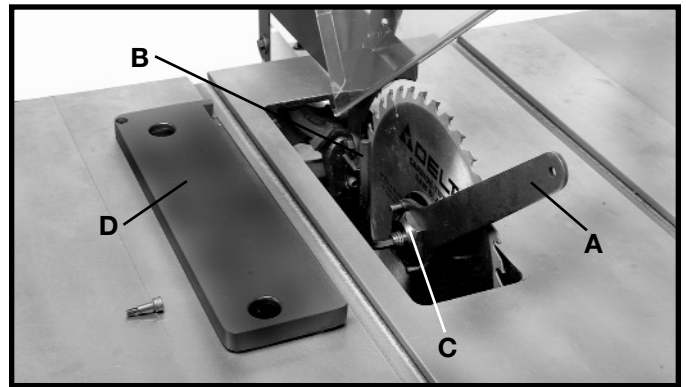

Fig. 58
1. **NOTE:** Two wrenches are supplied with the saw for changing the saw blade; a box end wrench (A) Fig. 58 and a 8mm hex wrench (B).
2. Remove table insert (D) and raise saw blade to its maximum height.
3. **To remove blade**, place the hex wrench (B) Fig. 58, in the hex hole in the arbor to keep the arbor from turning, and use box end wrench (A) to turn the arbor nut (C) toward the front of the saw. Remove arbor nut, blade flange and saw blade.
4. Assemble the new blade, making certain the teeth point down at the front of the saw table and assemble outside blade flange and arbor nut. With hex wrench (B) Fig. 58, inserted in the hex hole in the arbor to keep it from turning, **tighten arbor nut** by turning box end wrench (A) toward the rear of the saw.